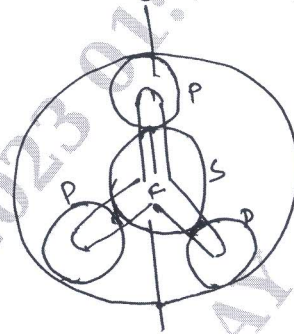

Fig.Q.4(b)
- b. An epicyclic gear train consists of a Sunwheel (S), a stationary internal gear (E) and three identical wheels (P) carried on a star shaped planet carrier (C). The size of the different toothed wheels are such that the planet carrier (C) rotates at  $1/5$  of the Sunwheel. The minimum number of teeth on any wheel is 16. The driving torque on the sun wheel is  $100\text{N/m}$  is shown in Fig.Q.4(b). Determine: